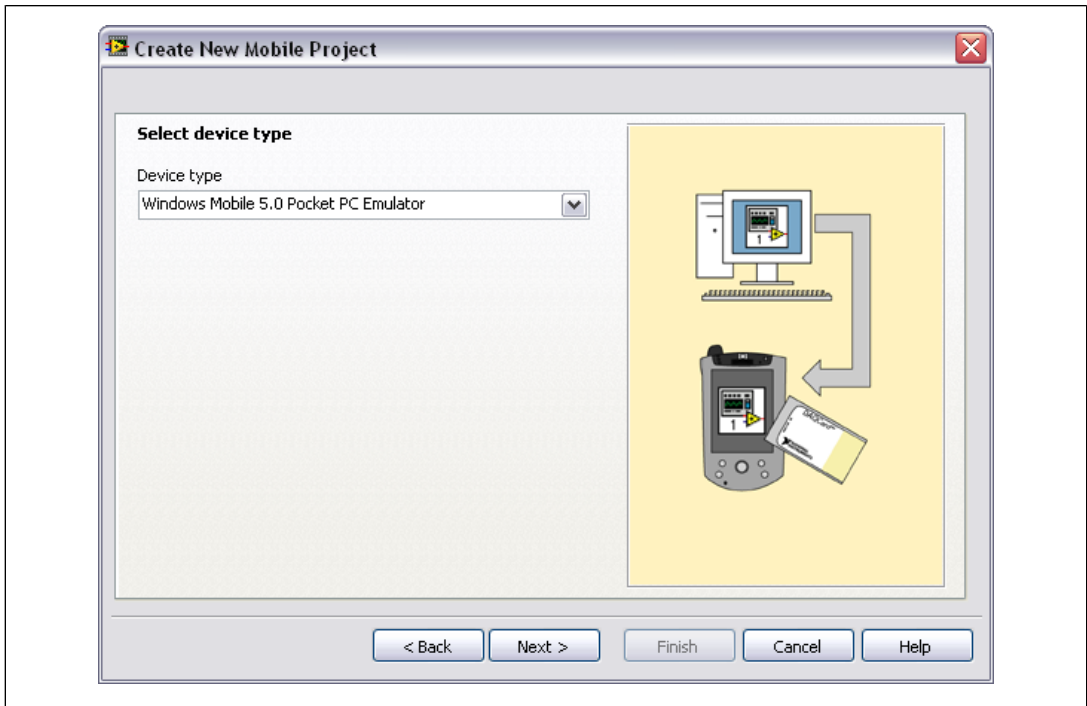

Figure 2. Selecting the Target
4. Select **Windows Mobile 5.0 Pocket PC Emulator** from the **Device type** pull-down menu, as shown in Figure 2.